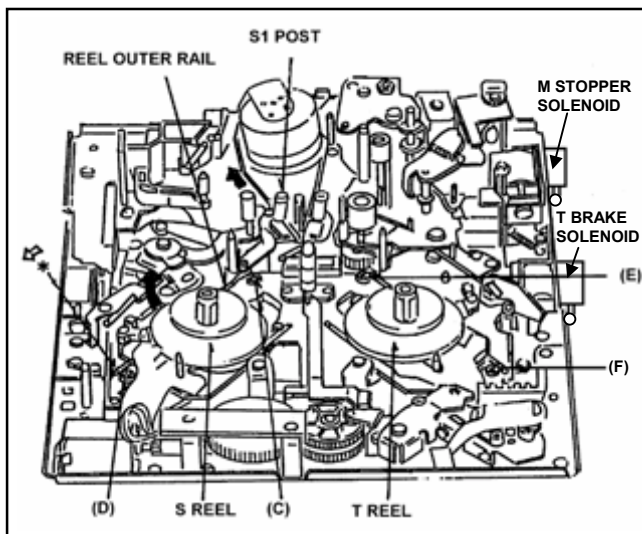

Figure 5-5-1
2. Move the S1 post to loading direction by manual ejecting method until the screw (C) can be removed as shown in Figure 5-5-1.
5. Remove the 4 screws (C), (D), (E) and (F) as shown in Figure 5-5-1.